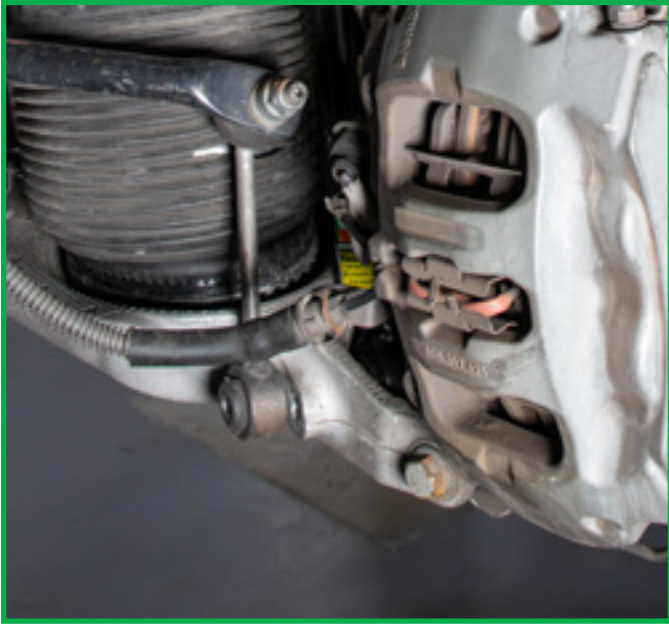

FIGURE 20
3. Install the lower sway bar bolt. (Figures 20, 21)